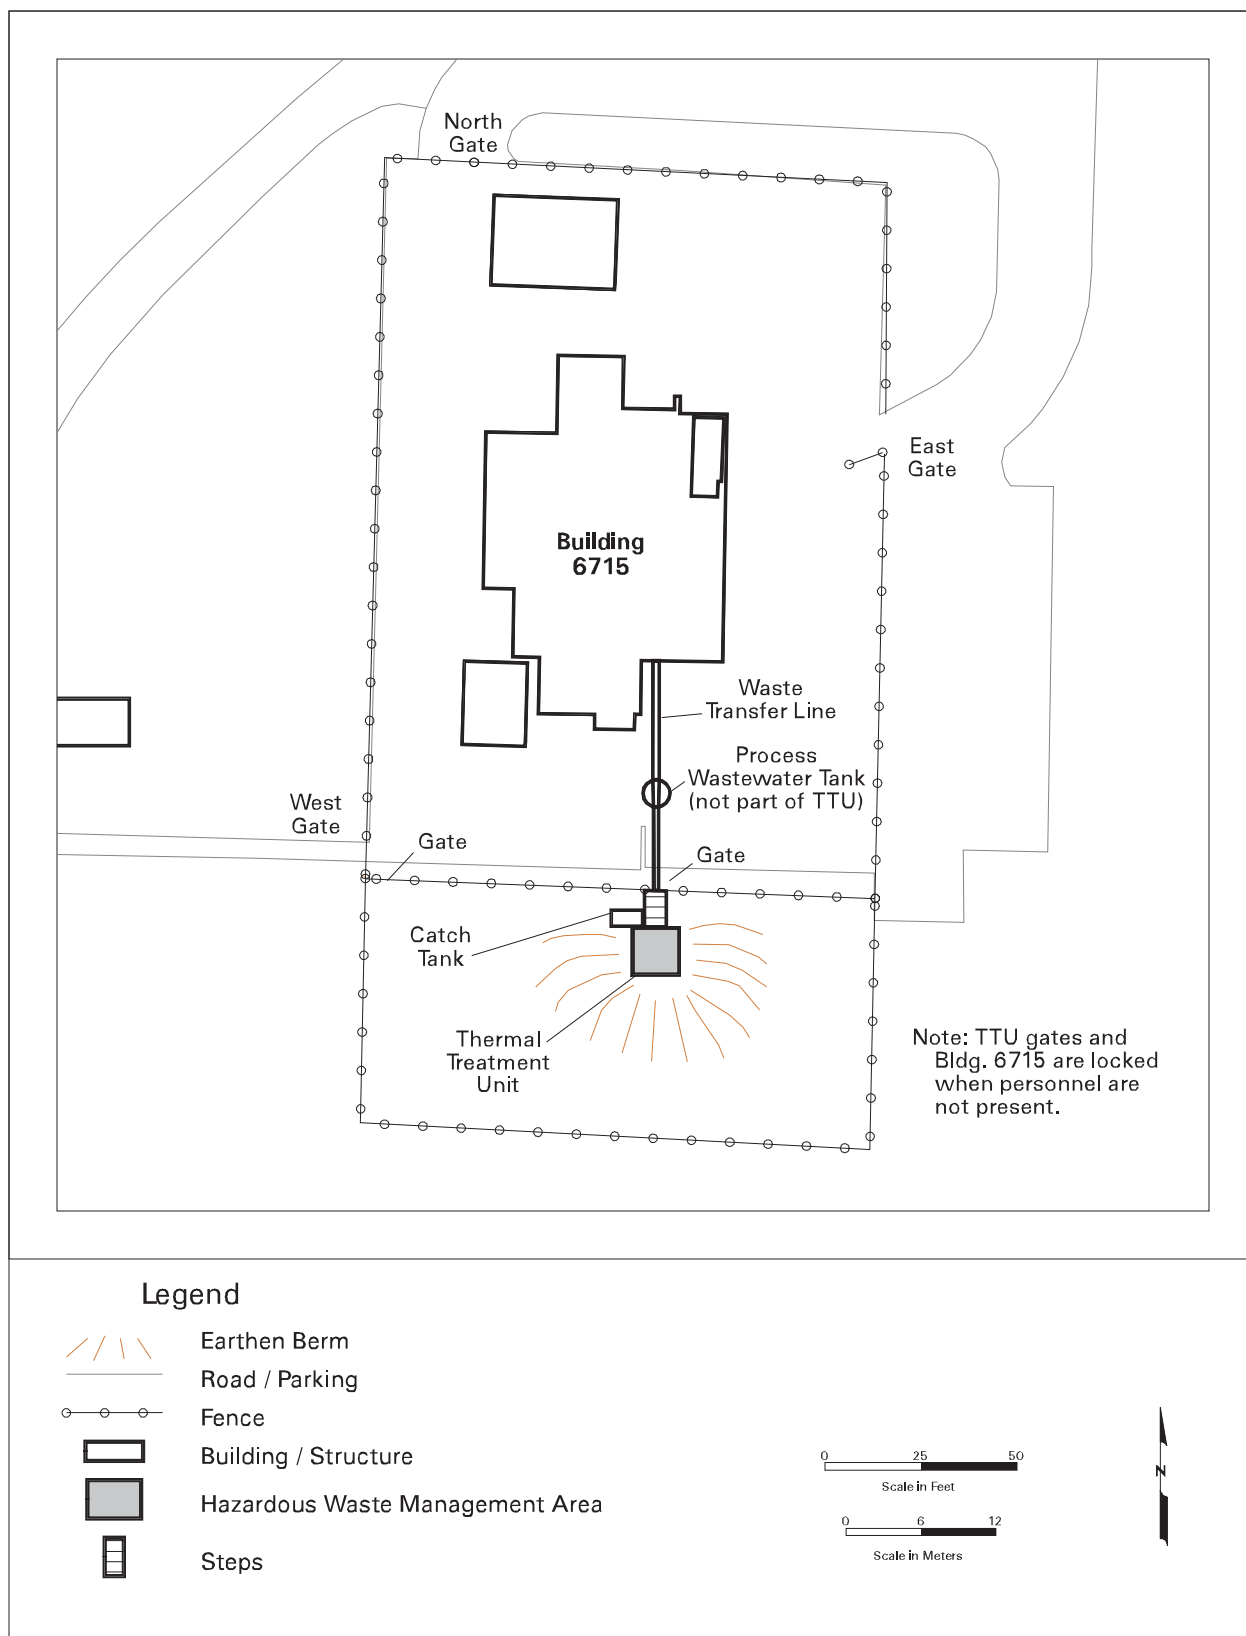

Figure 13
- Figure 13: Thermal Treatment Unit Access Control Features